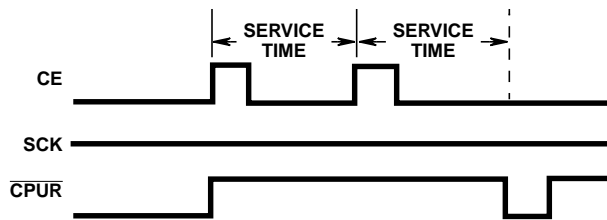

FIGURE 11. WATCHDOG OPERATION WAVEFORMS
3. Watchdog Reset (actually a non-transfer) Figure 11.
Watchdog Reset - (See Figure 11)